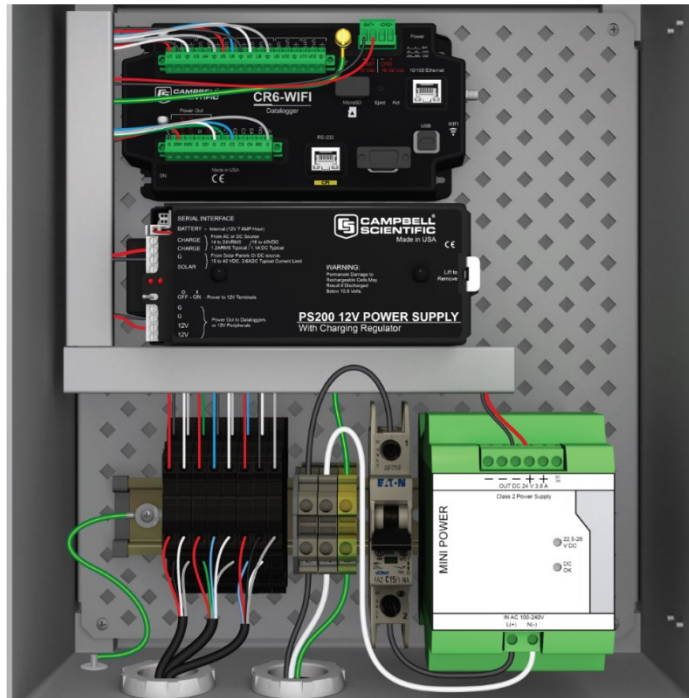

FIGURE B-11. Attaching external wiring
- Attach any wires coming from outside the enclosure to the DIN-rail components (FIGURE B-11 (p. 39)). Do not attach any voltage sources, such as AC power or a solar panel, until all other terminal connections have been made and verified.